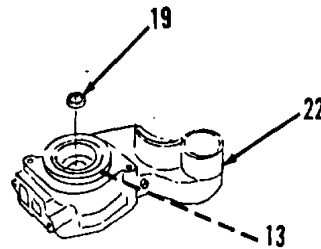

Figure 3-195.
2. Invert housing (22, Figure 3-195).
3. Using suitable driver and hammer, install new seal (19). Lip of new seal (19) must face gear (13) side of pump seat on bottom of counterbore.
4. Apply a light coat of lubricating oil to lip of new seal (19).